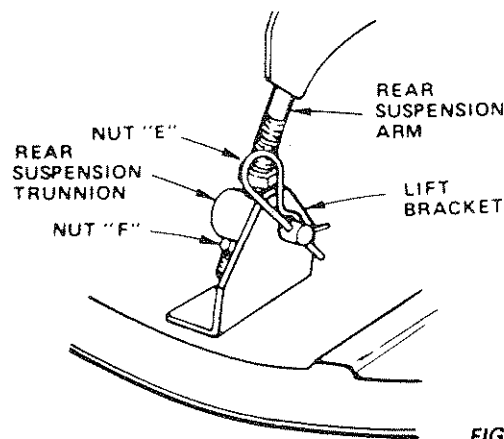

FIGURE 35
- b. To raise rear of mower, loosen nut "E" on both rear suspension arms. Screw both nuts "F" up EQUAL NUMBER OF TURNS (Fig. 35).
- d. To lower rear of mower, loosen nut "F" on both rear suspension arms an EQUAL NUMBER OF TURNS (Fig. 35).